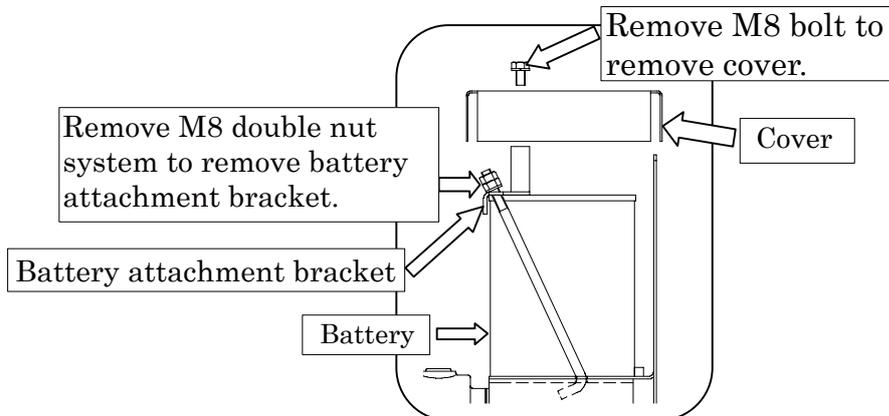

Fig. 2 Battery mounting position in detail
(2) Remove the M8 bolt shown in the Fig. 2 to remove the cover. Then remove the M8 double nut system to remove the battery attachment bracket.